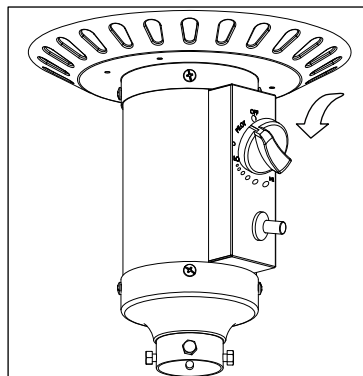

Figure 2
4. Push control knob in and rotate to pilot position or until the control knob stops, hold knob in (Figure 2).